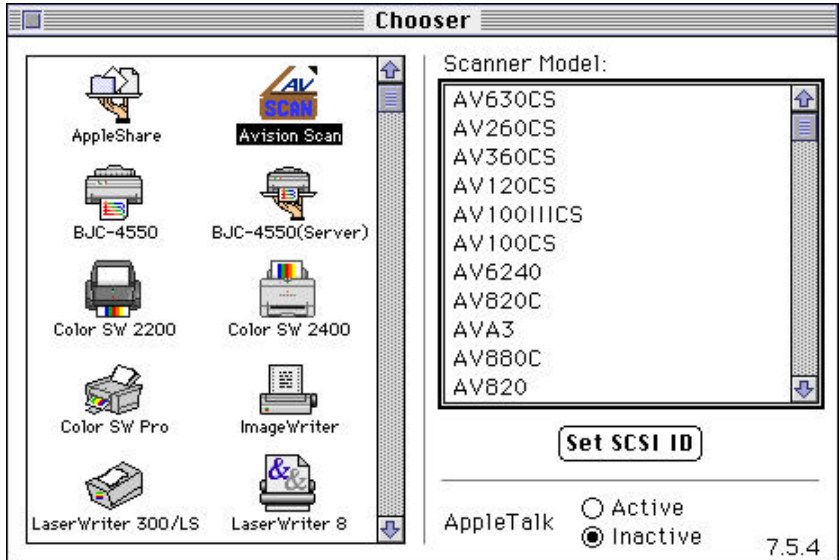

Figure 3-4 Chooser
7. If you want to use other Optical Character Recognition (OCR) applications such as OmniPage, Xerox TextBridge, Type Reader, etc., you have to setup the ISIS driver to access the scanner. The ISIS driver is a file named "Avision Scan." To setup, select "Chooser" command from the "Apple"  menu. A dialog box as Figure 3-4 will appear on the screen. Select the "Avision Scan" icon, ignore the "Scanner Model" list and the "Set SCSI ID" button, The list of scanner model will be displayed. Click on the "Set SCSI ID" button. The "Scanner ID" window as Fig. 2-17 will appear. Choose "Detect". The current Scanner ID number will be verified and highlighted. Press OK button. You can then start your application to use the scanner, or refer to your application manual for more details.